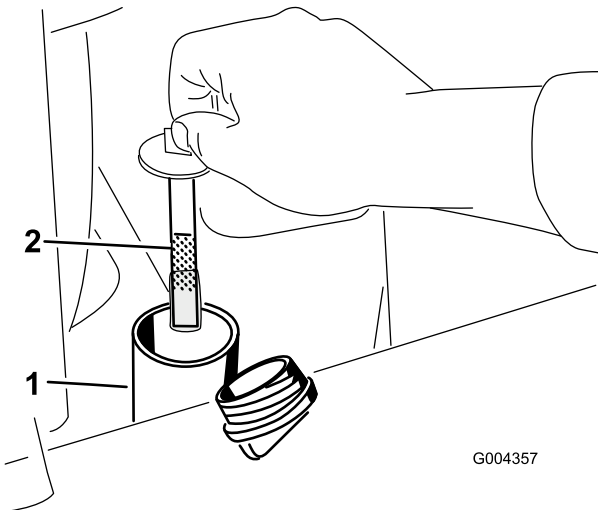

Figure 59
6. Remove the filler-neck cap and check the fluid level on the dipstick (Figure 59).